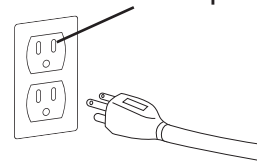

Fig. 9 - Knock-out Panel
2. Remove fan knock-out panel using a screwdriver (See Fig. 9). Attach Fan to the rear panel of the heater using the four screws provided.